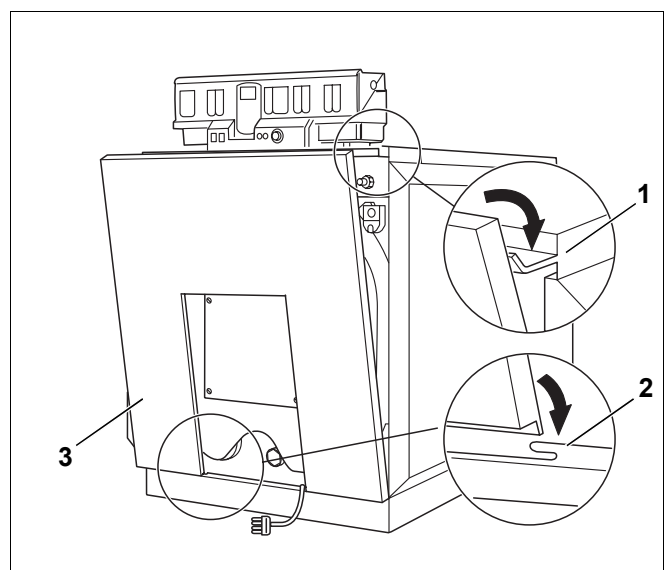

Fig. 41 Front wall installation
- Hook the front wall (Fig. 41, **Item 3**) at the bottom centre into the plinth front (Fig. 41, **Item 2**).
- Hook the front wall at the top into the edge of the front hood (Fig. 41, **Item 1**).